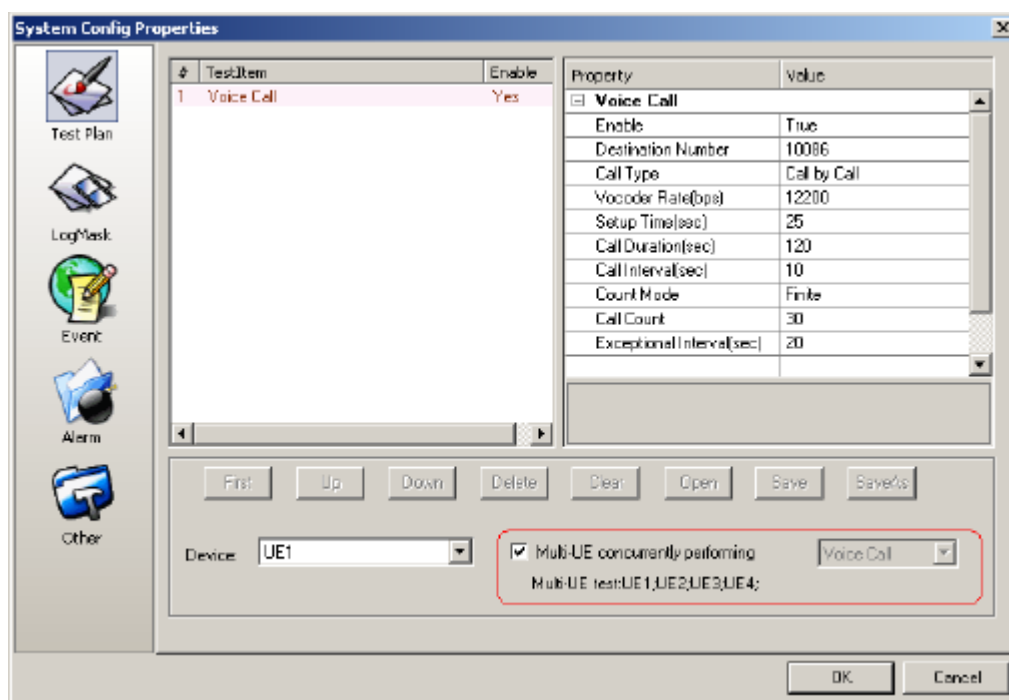

Figure 8-14 Multi-UE test check box
- 1) Select the **Multi-UE concurrently performing** box in the **System Config Properties** window, and choose the service type that is concurrently performed, as shown in Figure 8-14.